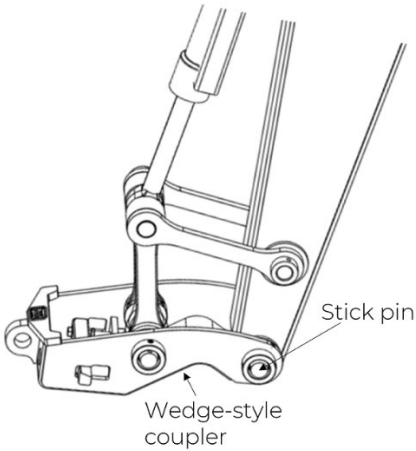

Figure 2: Location of stick pin
3. Remove the stick pin that holds the coupler to the excavator arm (see Figure 2 below).